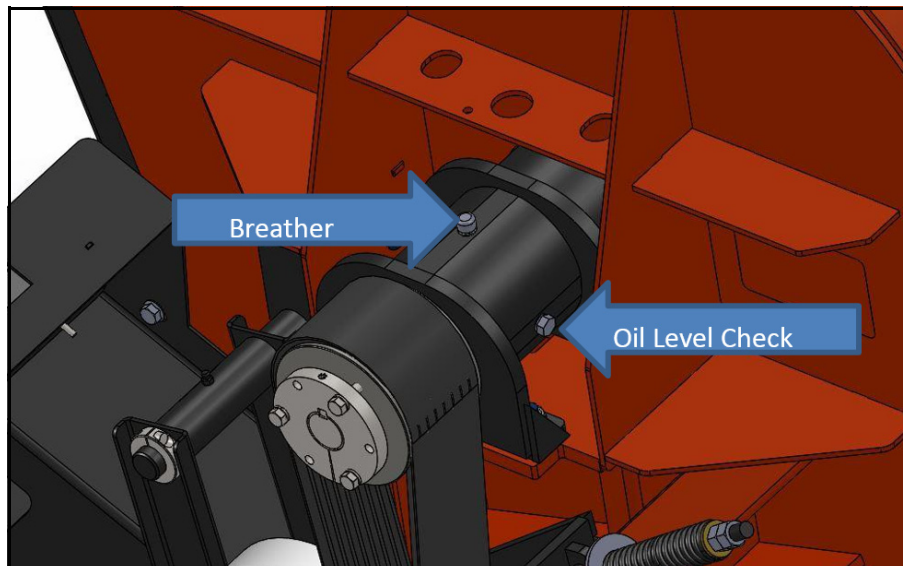

Figure 5.21 Air Breather and Oil Level Check Plugs
1. Remove the air breather plug (see Figure 5.21).
4. Remove the oil level check plug on the side and the breather plug from the top of the bearing cartridge (see Figure 5.21).